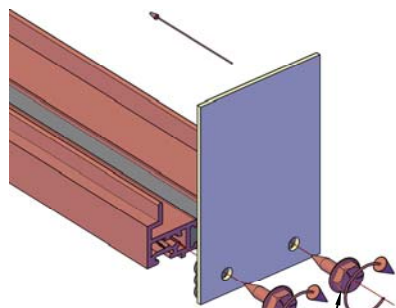
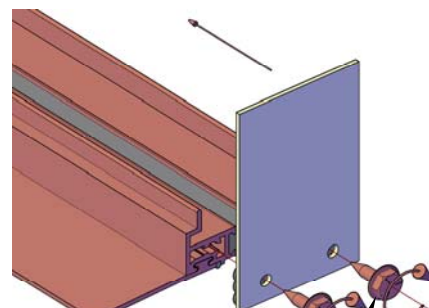

Fig. 5
Fig. 6
4) Bring the end dam into position and insert the factory supplied screw (Bill of Lading item X-113) into the holes. With a No. 2 Phillips screw driver, tighten the screws to a snug fit. Tool any exposed sealant to ensure a watertight fit. See Fig. 5 without Sill Extender and Fig. 6 if a Sill Extender is used.